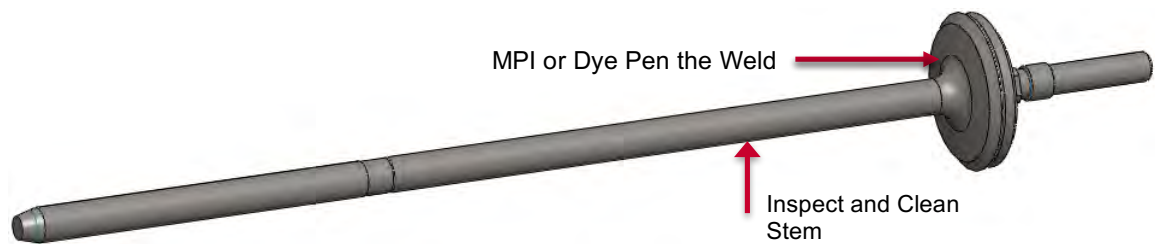

Figure 4-2 Valve Stem
4.1.2.4 The sealing surface is the stem seat (Figure 4-2). Clean the stem seat with emery paper (400 grit) then wipe it clean with a cloth and a suitable solvent. Run your fingernail over the seat surface to detect any flaws.